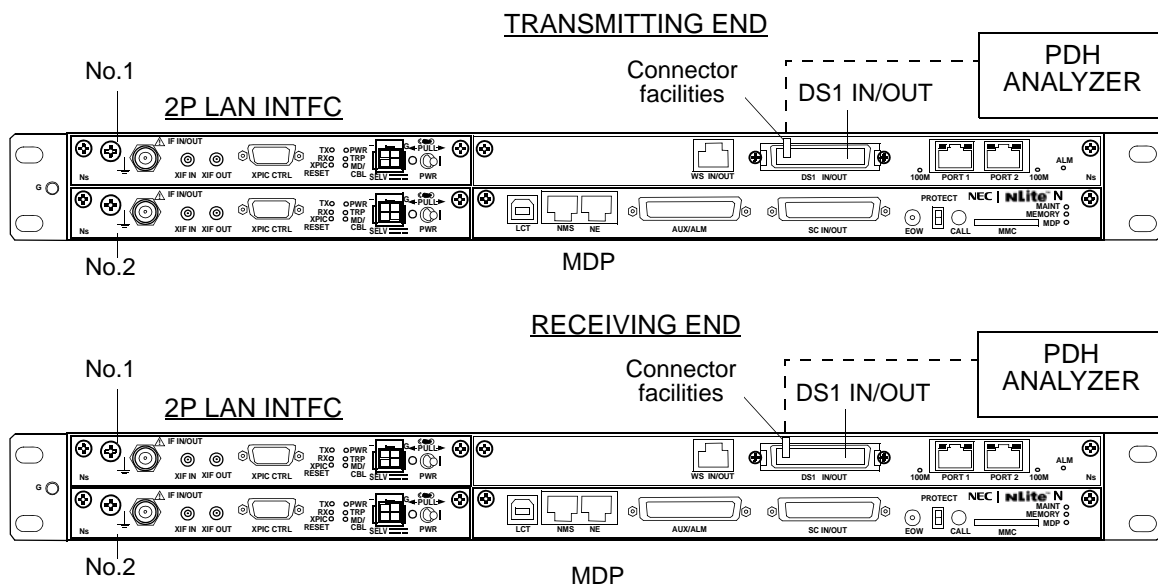

Fig. 5-4 BER Measurement (DS1)
- 1 At the transmitting end, disconnect DS1 IN/OUT on the 2P LAN INTFC. (see Fig. 5-4)
- 2 At the receiving end, disconnect DS1 IN/OUT on the 2P LAN INTFC. (see Fig. 5-4)